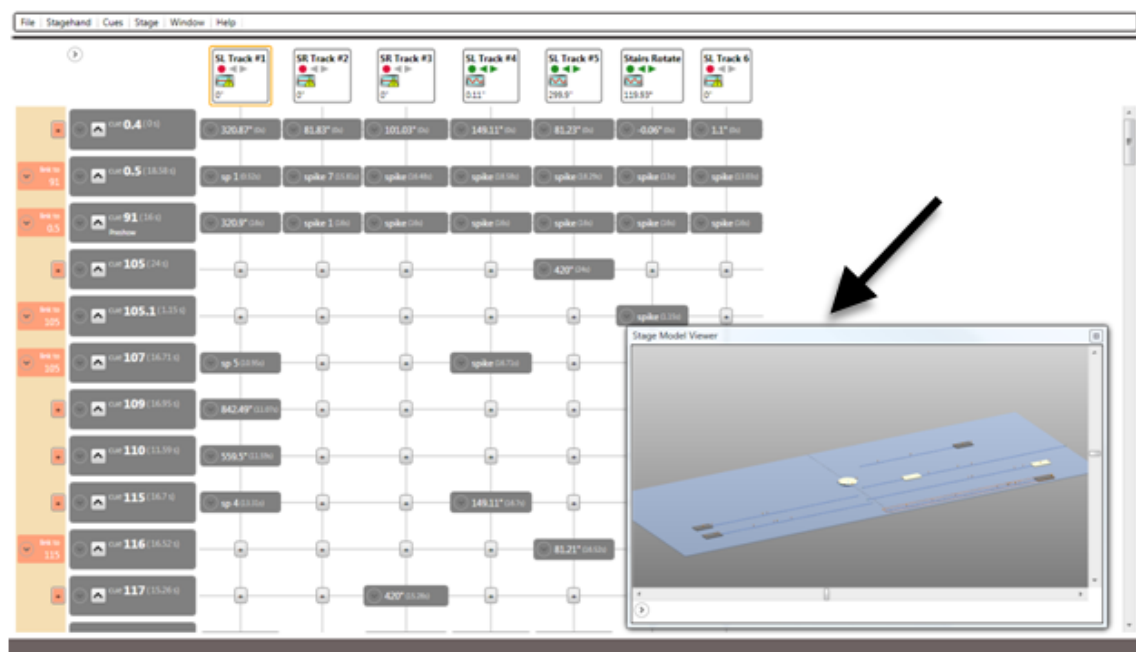

Figure 318
3. In **Window** menu, click **Stage Model Viewer** to create a floating **Stage Model Viewer**. Position the **Stage Model Viewer** in some unoccupied space of the **Cue Grid** (Figure 318) or drag it over to a second monitor.